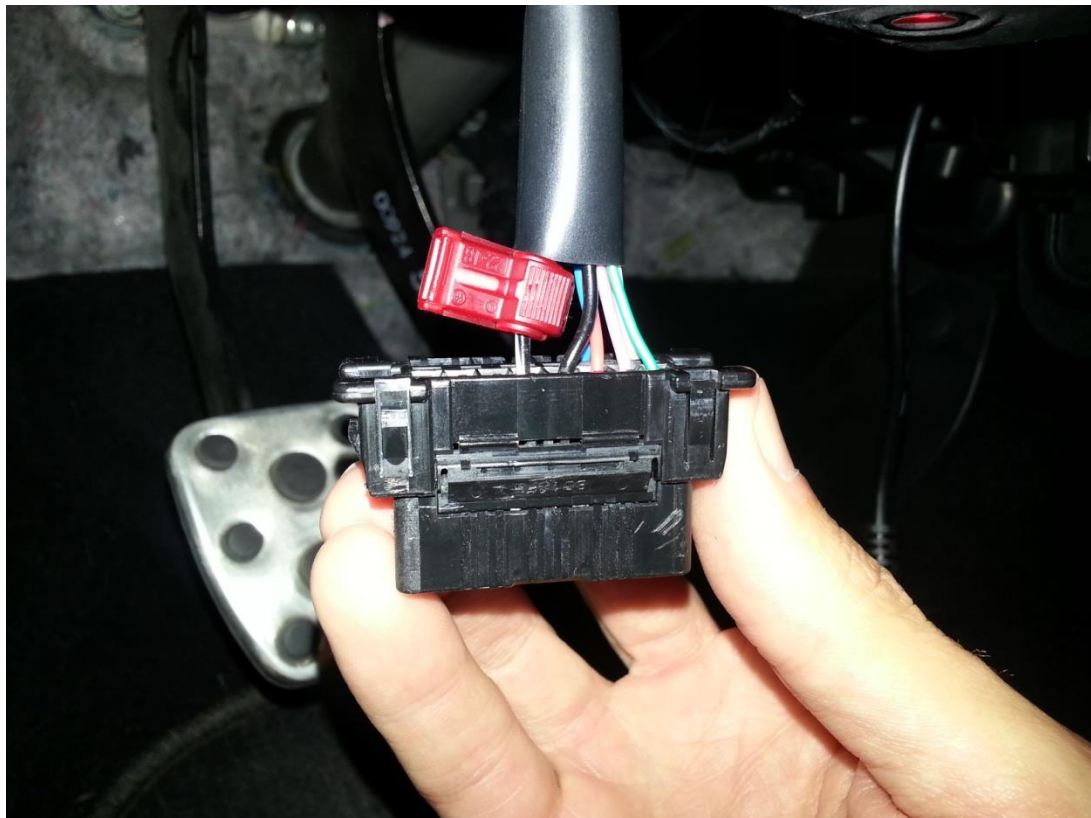

Figure 3 (OBDII ground connection)
1. Using a pair of pliers, securely attach supplied wire t-taps to all specified wires as shown in **Figures 3, 6, 7, and 8.**